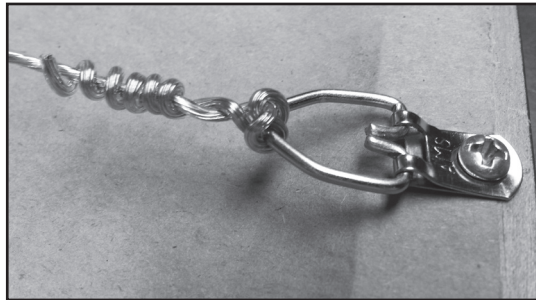

Fig.3
1. Turn adjustment screw to increase tension for hardwoods or decrease tension for softwoods. (**Fig. 3**)
3. Lay paper flat onto table and drop the frame straight down onto the paper with taped side down and artwork side facing up. **(Fig. 3)**
To install the wire, insert one end through the D-Ring allowing 3-5 inches of wire to feed through, twist it around itself and loop it through the D-Ring one more time. Pull tight and then coil the excess around itself keeping the coil tight and cutting away any excess after finishing. (**Fig. 3**)